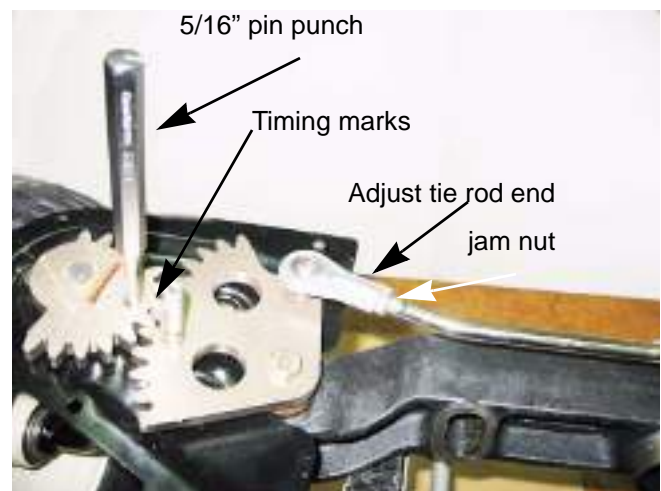

Figure 6B.94
NOTE: Make sure they go all the way through into the pivot bar to lock the gears in position. See Figure 6B.94.
19. Adjust the tie rod ends by loosening the jam nuts and rotating the tie rod ends until they slide on to the 1/4" bolts sticking up through the inboard steering gears. Tighten the jam nuts to lock the tie rod ends in place. See Figure 6B.94.